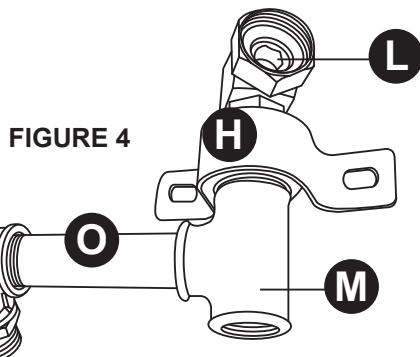

FIGURE 4
4. Insert the brass swivel (L) thru the U-bushing (H) and screw the end of the swivel into the galvanized elbow (M). Attach galvanized connector (O) to hose fitting (N). Attach hose connector to tee. Using a wrench, tighten all pieces to create a solid unit as shown. **See Figure 4.**